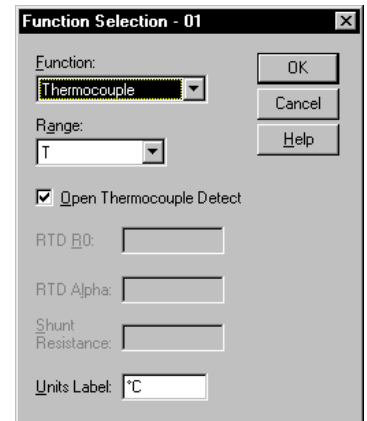

Figure 9.
5. Click on the down arrow of the Function list and select Thermocouple. (Figure 9)